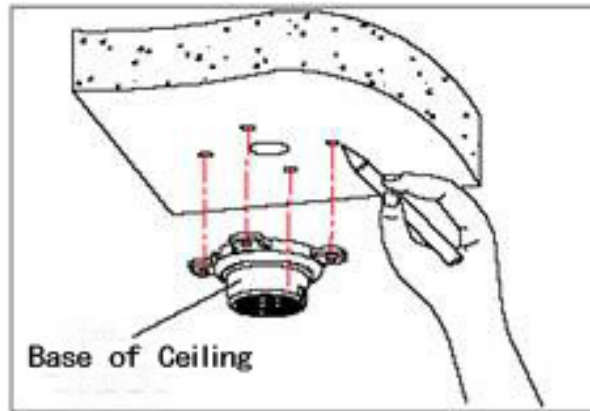

Fig 12
a. As shown in fig 12, with the installation holes in the base of ceiling as pattern, draw punched locations in the ceiling and punch to install M6 expansion bolt.